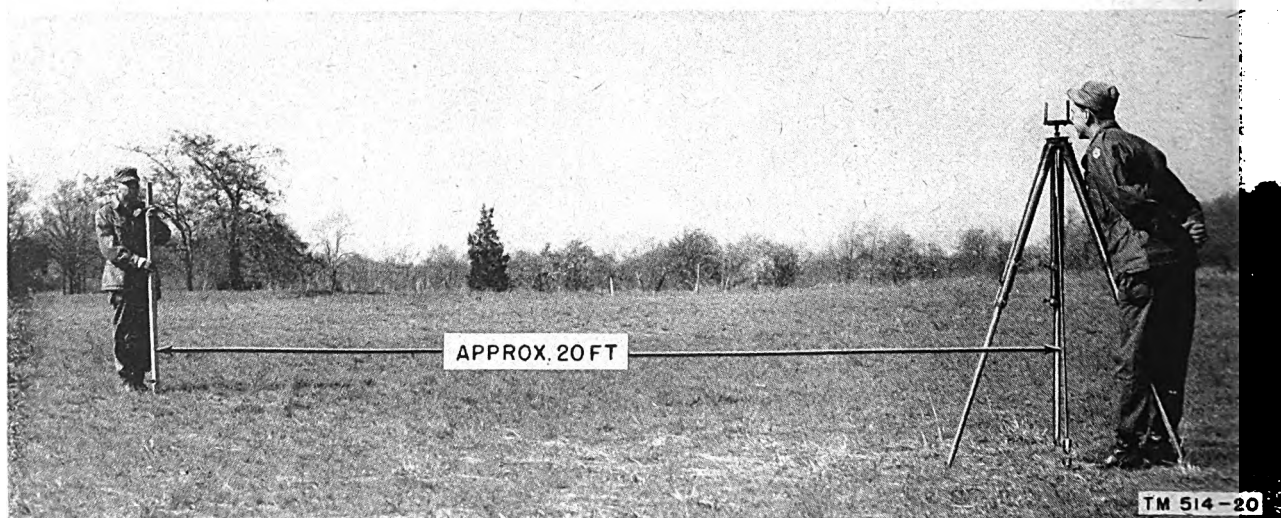

Figure 18. Use of compass sights to check north stake alignment.
- (1) Drive a small stake into the center of the antenna site (par. 14) so that about 2 inches of the stake is above ground.
- (2) Remove the tripod from Chest CY-363/CRD-2 and, using a plumb line, erect it so that the center of the tripod is directly over the center of the stake (fig. 18).
- (3) Carefully remove the carrying case containing the compass and ball socket unit from Chest CY-364/CRD-2.
- (4) Remove the small screw cap at the top of the adapter on the tripod.
- (5) Install the compass on the tripod, using the ball and socket unit.
- (6) Level the compass by adjusting the ball and socket unit until the air bubbles in the spirit levels appear in the center of the liquid.
c. **STAKE ALINEMENT.** With the compass adjusted to point to either true or magnetic north, drive a north marker stake into the ground in line with the sights and about 20 feet from the center stake (fig. 18). Rotate the compass exactly 180° and drive a south marker stake into the ground at a distance of 20 feet from the center stake. Check the compass level, the compass orientation, and the stake alinement when viewed through compass sights (fig. 18). If alinement is satisfactory, set aside the compass, tripod, and other accessories. Drive the stakes into the ground until about one-half inch of each stake is visible above ground.